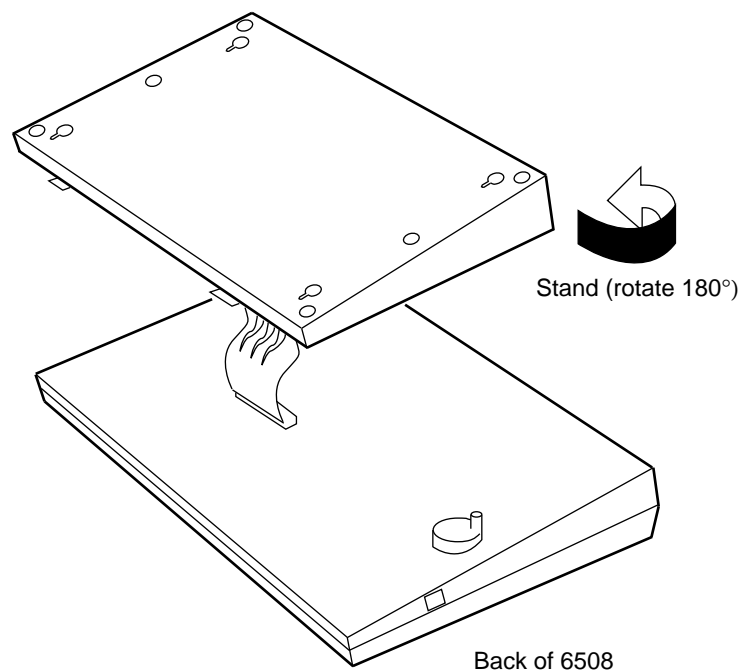

FIGURE 5-14. The Base of the 6508 Telephone Separated from the Housing
6. Disengage the lower two tabs from their slots and slowly lift the base a couple inches off the set. See Figure 5-14.